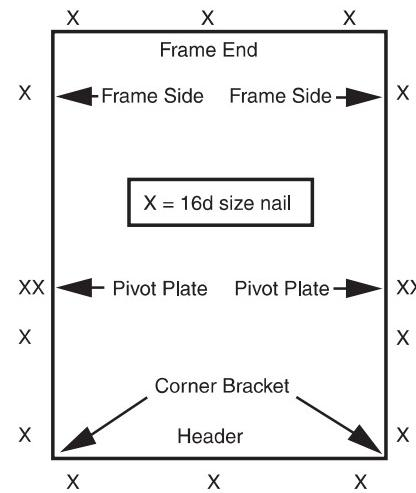

Figure 7
- Be certain to install nails or $\frac{1}{4}$ " diameter lag screws in the holes provided in the hardware pivot plates and in each corner next to the corner bracket as shown in Figure 7. Drill pilot holes to keep ladder frame from splitting.
- Once the folding aluminum attic ladder is positioned as desired, final nailing should be done through the folding aluminum attic ladder frame (see Figure 7). Always drill pilot holes to keep from splitting the frame boards.